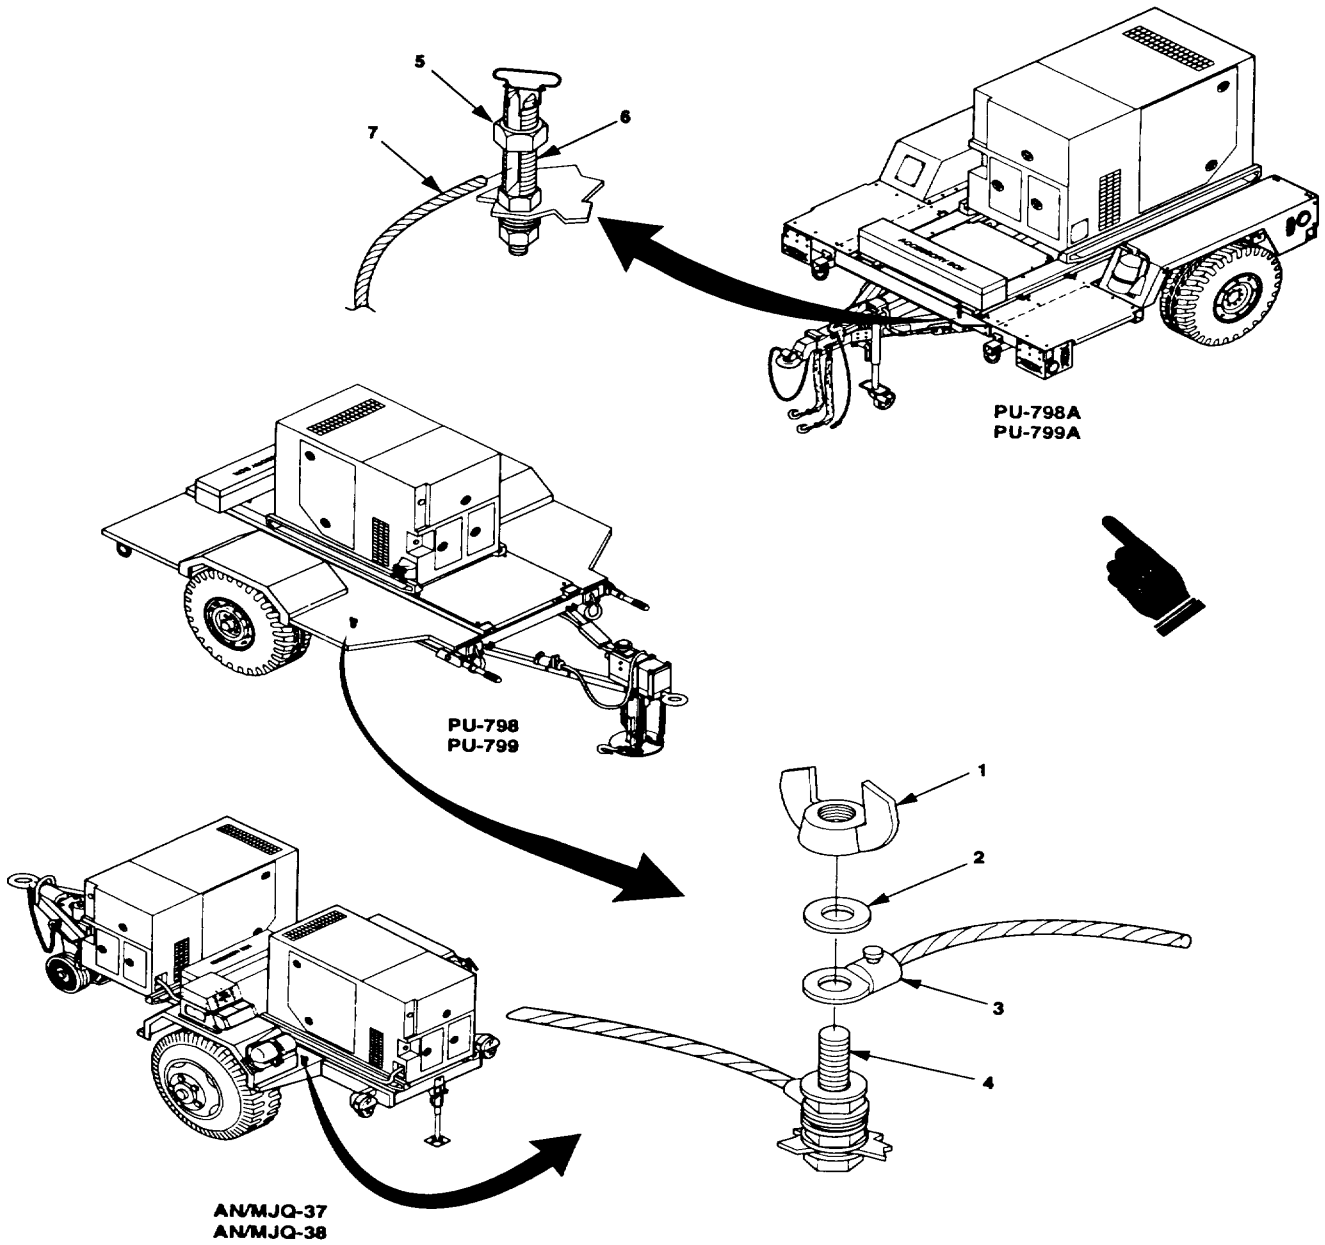

Figure 2-7. Power Plant and Power Unit Ground Connections.
**2-3.3 Grounding of Generator Set.** Ground the equipment in accordance with Army Field Manual FM 20-31. Typical ground rod installations are shown in figure 2-7. If a ground rod is used, install and connect it as follows:
- (1) If the high mobility trailer (PU-798A and PU-799A) is being used, perform steps (5) and (6). Otherwise, perform steps (2) through (4).
- (2) Remove and retain wing nut (1, figure 2-7) and flat washer (2) from trailer ground stud (4) and install ground cable terminal lug (3) to ground stud (4).
- (3) Install flat washer (2) on ground stud (4).
- (4) Install wing nut (1) on the ground stud (4) and tighten.
- (5) Loosen nut (5) on high mobility trailer ground terminal (6).
- (6) Insert wire (7) through slot of ground terminal (6) and tighten nut (5).